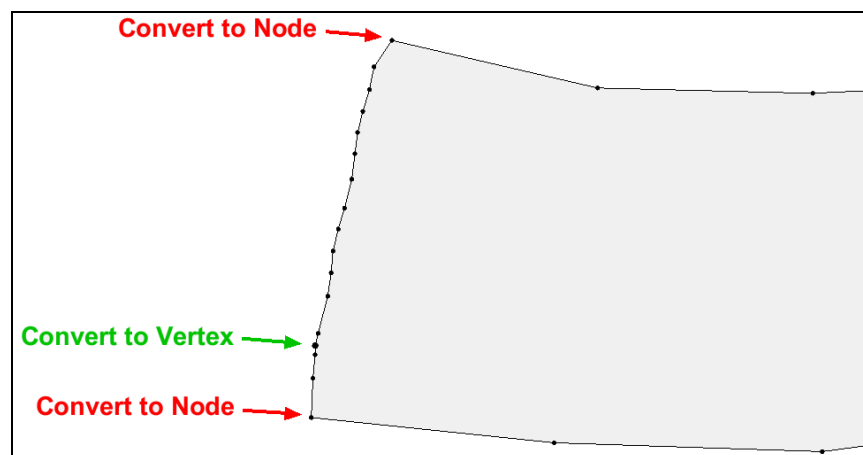

Figure 4 Nodes to be converted to vertices
9. **Zoom**  in to the lower boundary of the coverage as shown in Figure 4.
10. Repeat steps 7–8 for the two corner vertices indicated in Figure 4.
11. Using the **Select Feature Point**  tool, select the node three up from the newly-created bottom corner node as indicated in Figure 4.